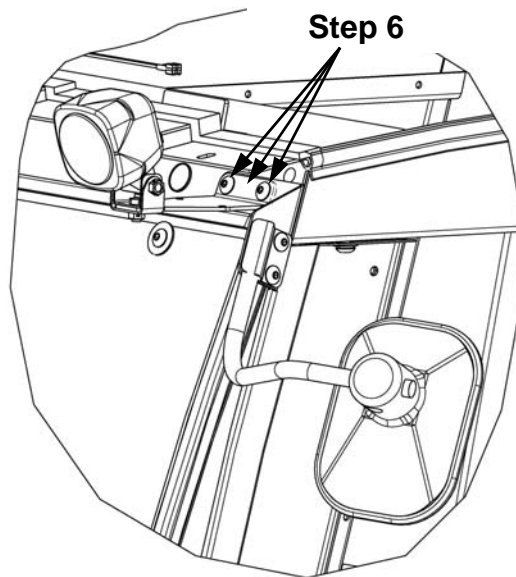

Figure 3
5. If mirrors are present, remove mirror bracket mounting bolts (**Figure 3**).
6. Secure each front light mount bracket to cab cross member (If mirrors are present, secure each light with mirror brackets using the bolts and holes) using **(Figure 3)**;